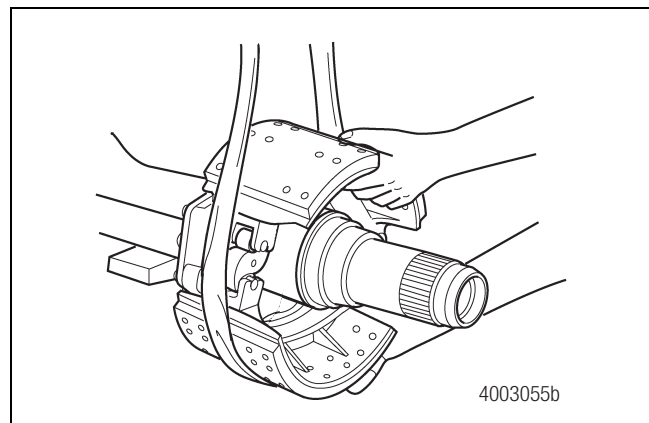

Figure 3.9
11. Use a lifting device to support the brake assembly. Figure 3.9.